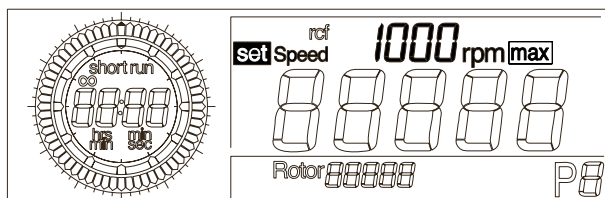

Fig. 5.12:
- Turn the left rotary knob until “set” appears in front of the parameter “Speed” on the display (Fig. 5.12).